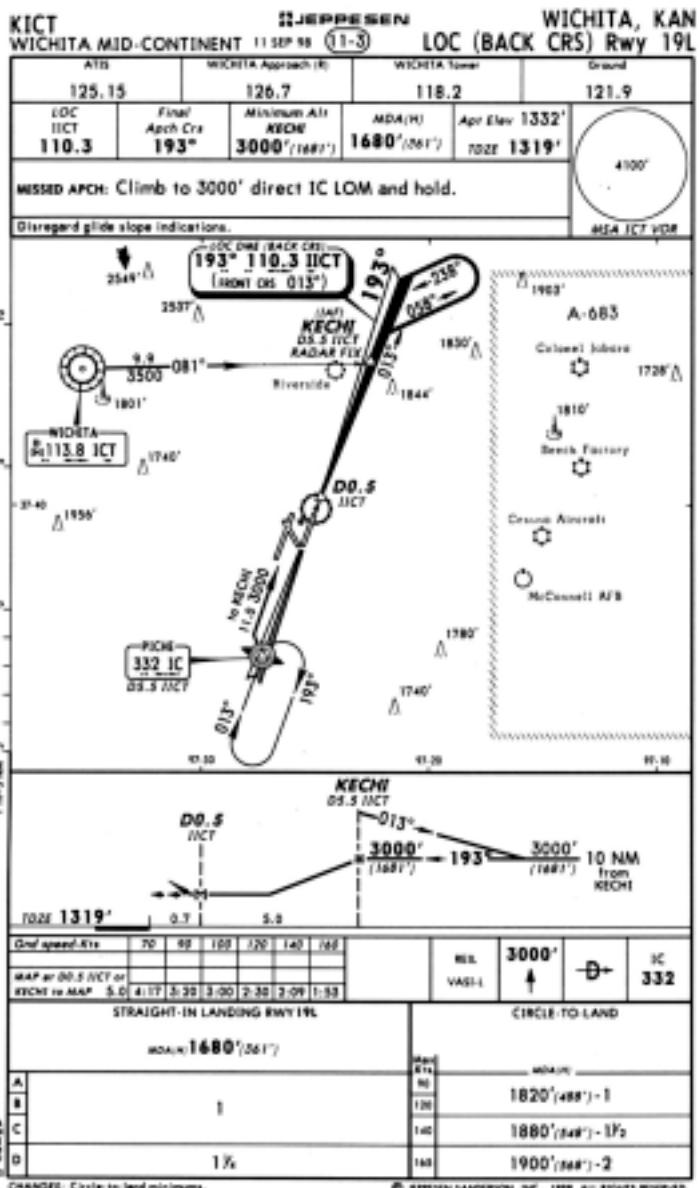

Figure MAP-6. Approach Plate (Typical)
1. Identify the approach to be flown and the transition (Figure MAP-6).